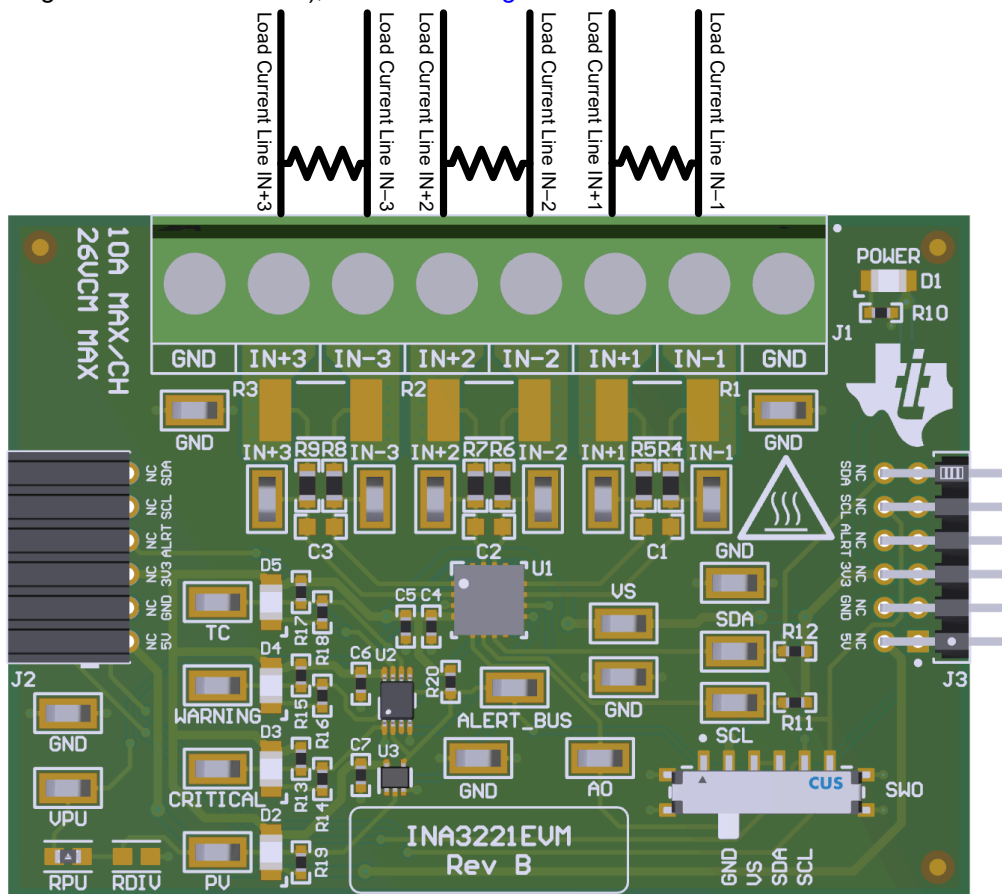

Figure 2-3. IN+ and IN– Wiring for More Than 10A
- b. Connect an external shunt across the IN+ and IN- terminals of J1 as shown in Figure 2-3.
- a. When measuring more than 10A, verify that the high current path does not go through the EVM (including the terminal block J1), as shown in Figure 2-3.